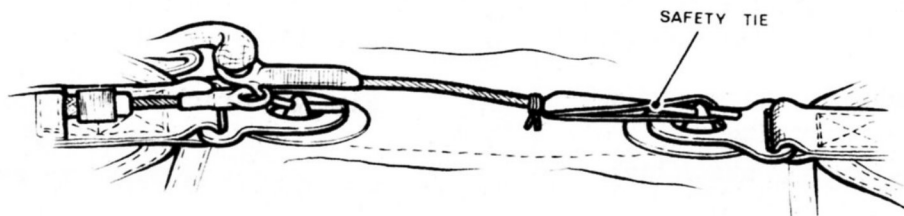

Fig 2 Parachute rip-pin safety tie
(7) Check the safety tie of the parachute pack by placing the pack in the seat pan with the closure flap upwards. Carefully open the flap in the centre of the pack and check that the scarlet cotton tie securing the starboard pin is unbroken (fig 2). Close the flap. Ensure that the flap covering the slide disconnect pin at the end of the parachute has not been disturbed.